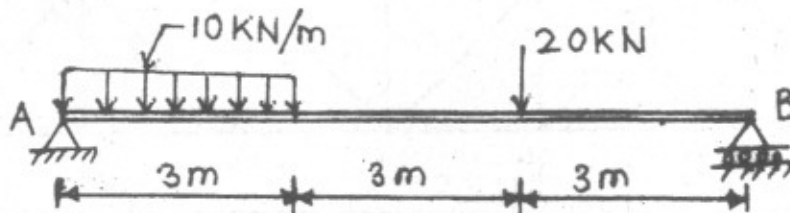

Fig. 9 (a)
9. (a) A simply supported beam AB of length 9 m is loaded with udl of 10 kN/m upto 3 m from A and a point load of 20 kN is acting at 6 m from A as shown in Fig. 9 (a). Find reactions at support using influence line diagram. [8]
- (b) For the pratt truss shown in Fig. 9 (b), construct influence line for the force in members : [8]